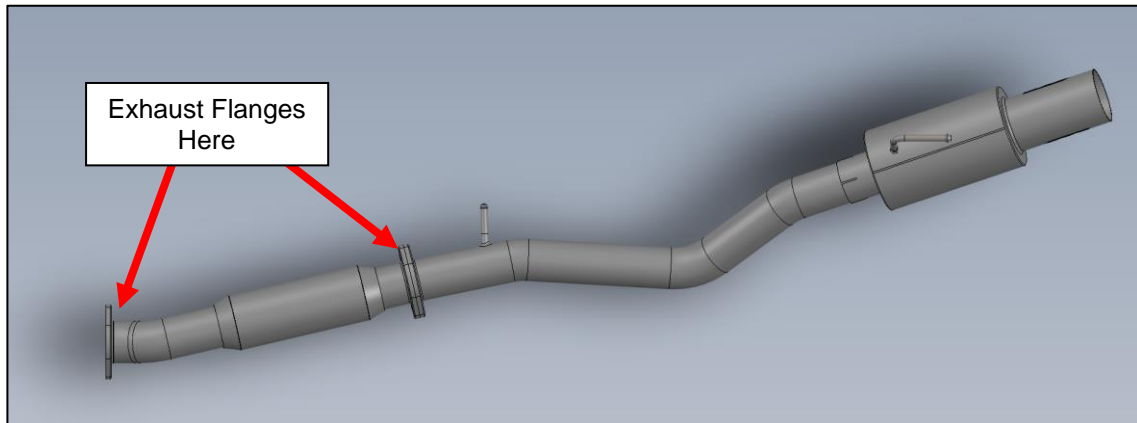

Figure 4
7. Locate the Mid-Pipe, Exhaust Gaskets, and all M10 Hardware. Install the Mid-Pipe to the Y-Pipe and the Rear Section of the Exhaust, making sure there is an Exhaust Gasket in between each Exhaust Flange. Loosely secure each connection with (2) two M10 Nuts and Bolts. *Figure 4.*